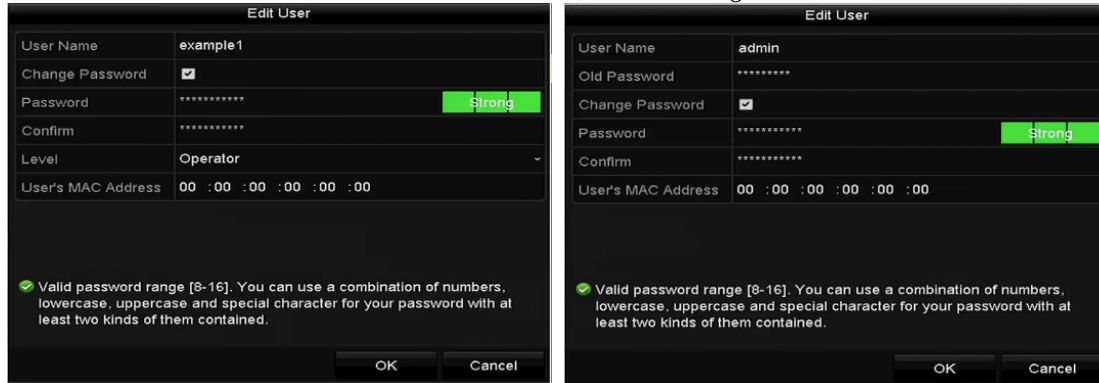

Figure 16. 11 Edit User Interface
3. Click the  icon to enter the **Edit User** interface, as shown in Figure 16. 11.